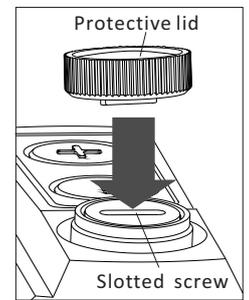

Fig 6
2. The built in screw driver tool on the protective cap can be used for zeroing alignment (see Fig6). Note the label inside cap.